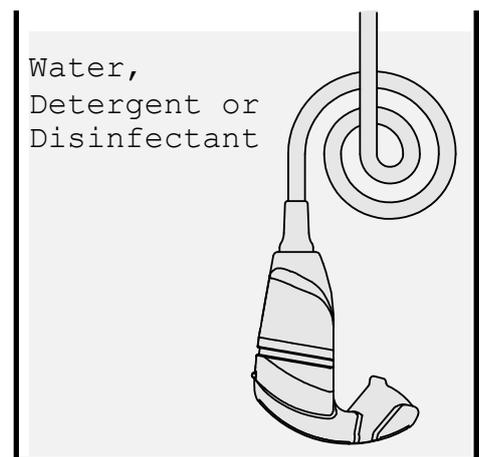

Fig.25 Immersion of the Probe
- 2) Immerse the submergible part of the probe without connector into the diluted detergent (see figure 25). Using a 50 ml syringe flush the cavity of the probe 5 times under the liquid surface with 50 ml diluted detergent. Brush the whole length of the cavity of the probe 5 or more times by using an applicable brush. In addition the probe is brushed until visually clean.
- 3) Immerse the submergible part of the probe into the disinfectant. (see figure 25). Rinse the cavity of the biopsy probe with 50 ml disinfectant solution. Repeat this 4 times. Set a clock to insure the recommended contact time is 5 minutes.